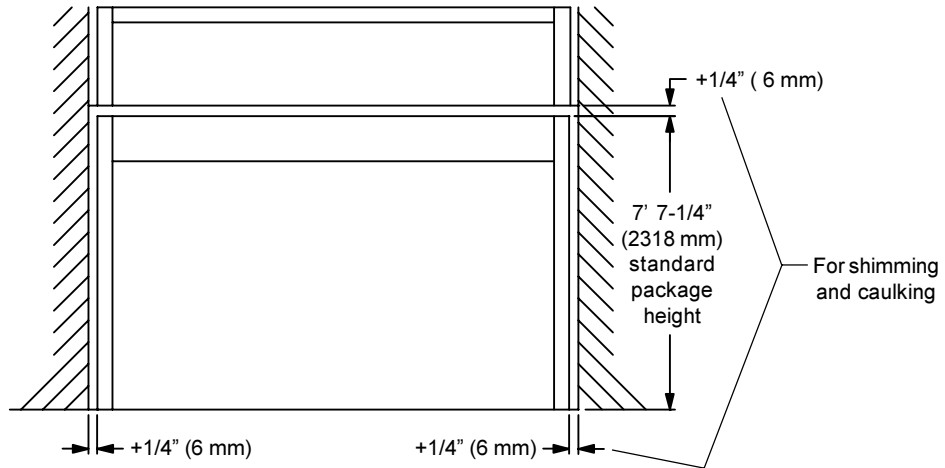

Figure 1. Clearance Required at Rough Opening
- 2.1. Check that the opening is the correct size. Correct size is package width plus 1/2" (13 mm) and package height plus 1/4" (6 mm) for shimming and caulking (**Figure 1**).